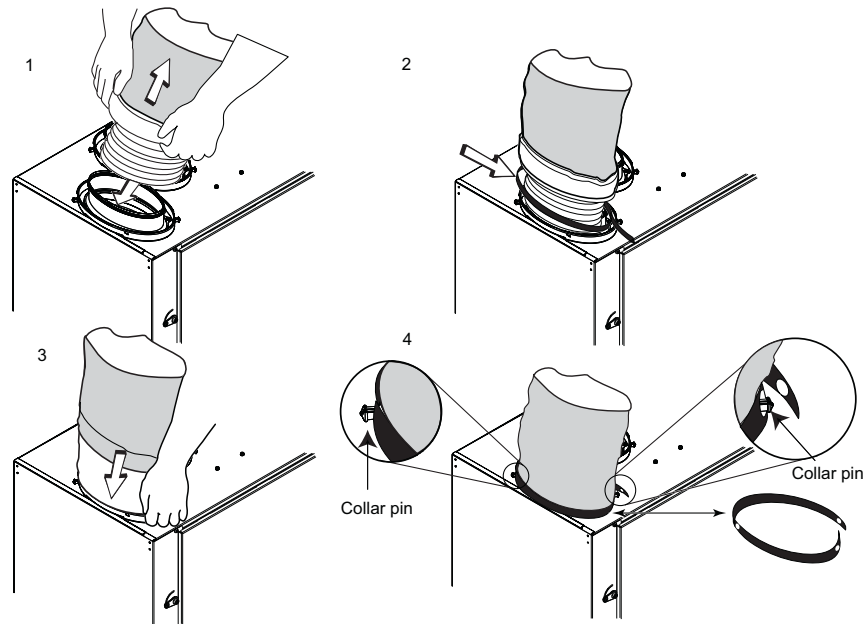

Fig. 15 - Ductwork installation
4. Pull down the vapor barrier (shaded part in Fig. 15) over the outer ring to cover it completely. Fasten in place the vapor barrier using the port strap (included in unit parts bag). To do so, insert one collar pin through vapor barrier and first strap hole, then insert the other collar pin through vapor barrier and center strap hole and close the loop by inserting the first collar pin in the last strap hole.